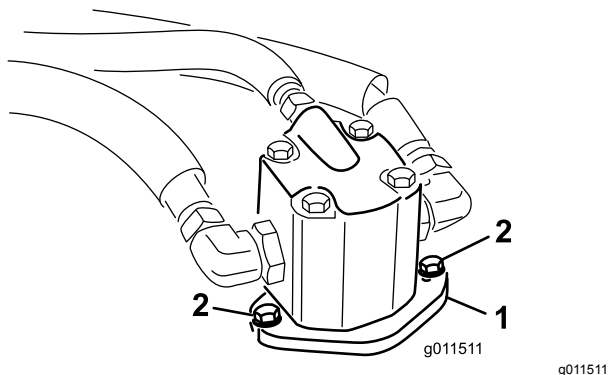

Figure 115
4. Remove the bolts securing the hydraulic motor to the mower deck (Figure 115).